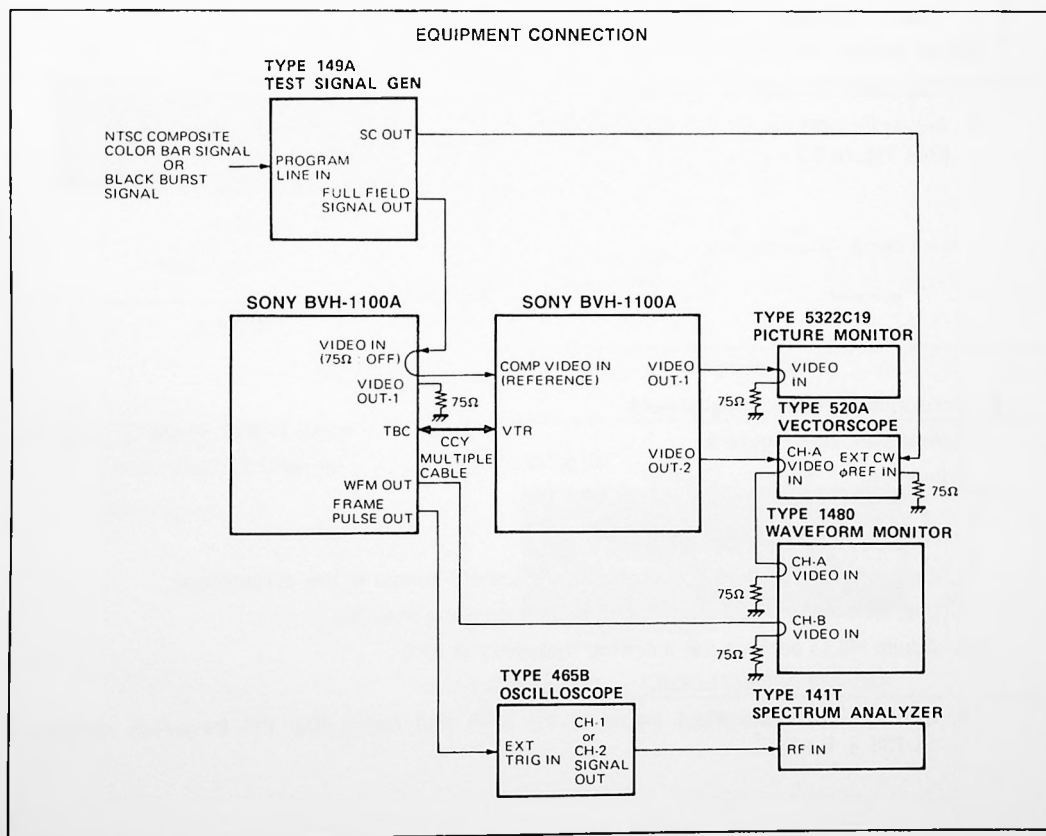

Figure 8
- Connect the BVH-1100/1100A, BVT-2000 and test equipment as shown in Figure 8.
Connection: See Figure 8